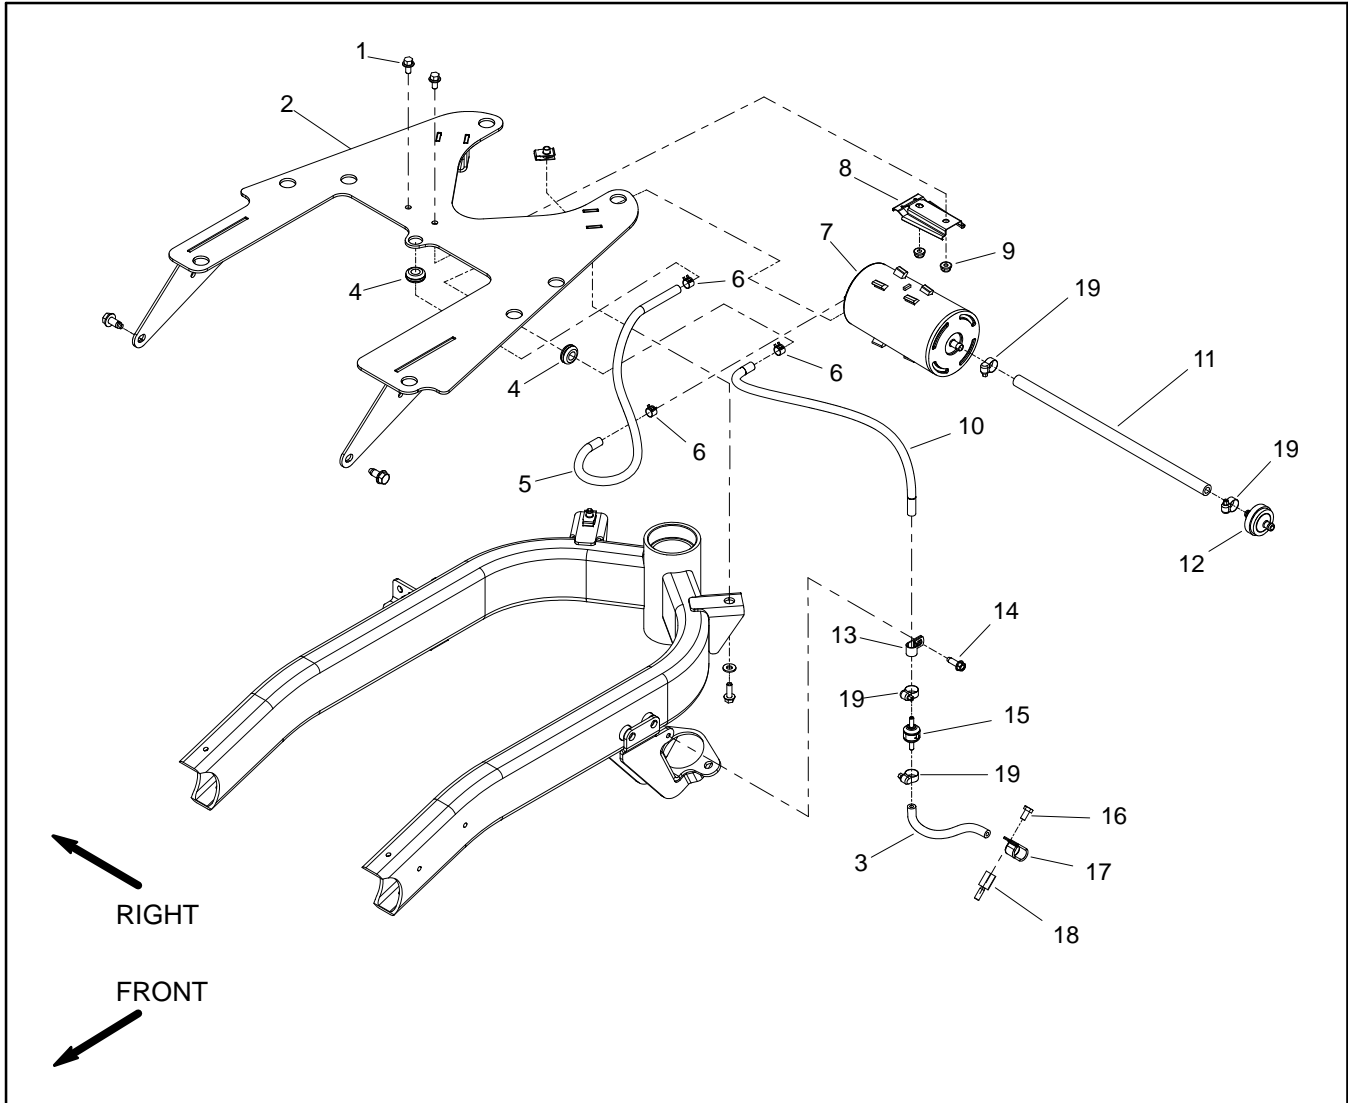

Figure 3
### Removal (Fig. 3)
1. Park machine on a level surface, disengage and lower cutting units, move functional control lever to neutral (N), engage parking brake, stop the engine and remove the key from the ignition switch. Wait for all machine movement to stop.
4. Remove components as needed using Figure 3 as a guide.
A. If check valve (item 15) is removed, note direction of arrow on valve body for assembly purposes.
### Installation (Fig. 3)
1. Install all removed components using Figure 3 as a guide.
A. If check valve (item 15) was removed, make sure that arrow on valve body points toward engine.